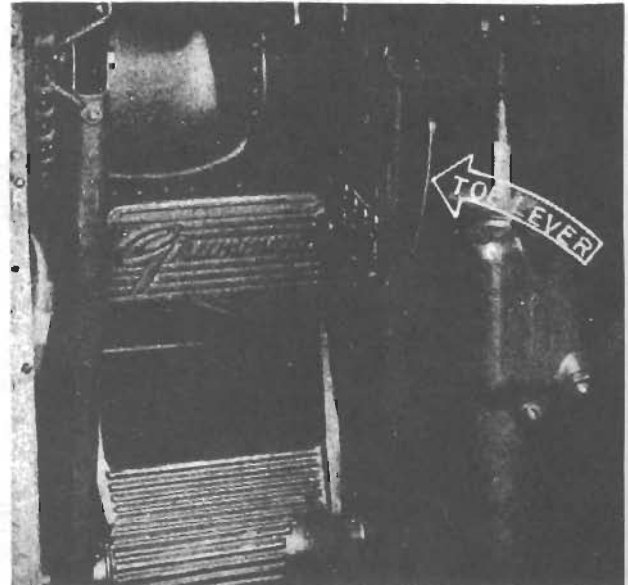

Figure 13 - Rudder Pedal Adjustment Lever
(1) **RUDDER CONTROL.**—The rudder pedals are suspended from a horizontal bar below the instrument panel. See Figure 13. The pedals are adjustable to four positions by a toe lever on each inner pedal arm. With toes on adjustment levers, push pedals all the way FORWARD, then with toes under pedals bring AFT one notch at a time until desired position is attained. Check that each pedal has ratcheted past the same number of notches. Adjustment of the rudder pedals automatically adjusts the brake pedals to the same relative position.